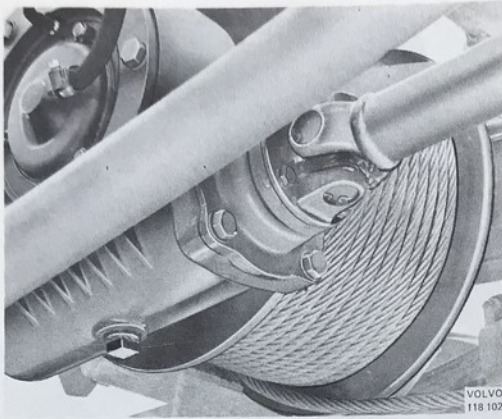

Fig. 92-25. Removing the propeller shaft
2. Disconnect the propeller shaft, see Fig. 92-25, from the winch flange.